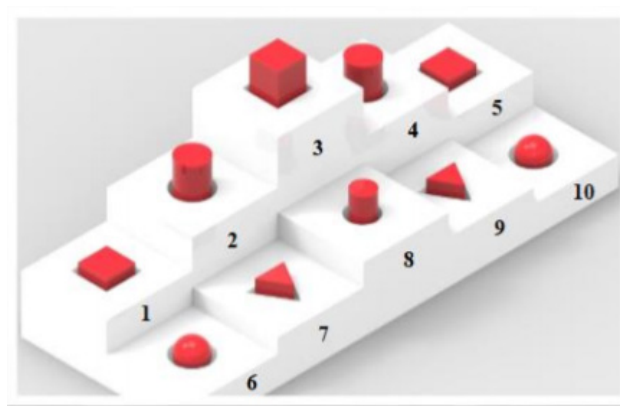

Figure 7- Arrangement of objects on the platform
11. The area to be used to start the competition is the 12 cm x 12 cm sized yellow colour coated area on the ground in front of the platform number 8 shown in Figure 7. The competition will start when the robot touches this area and the time will be completed when it touches the same area.